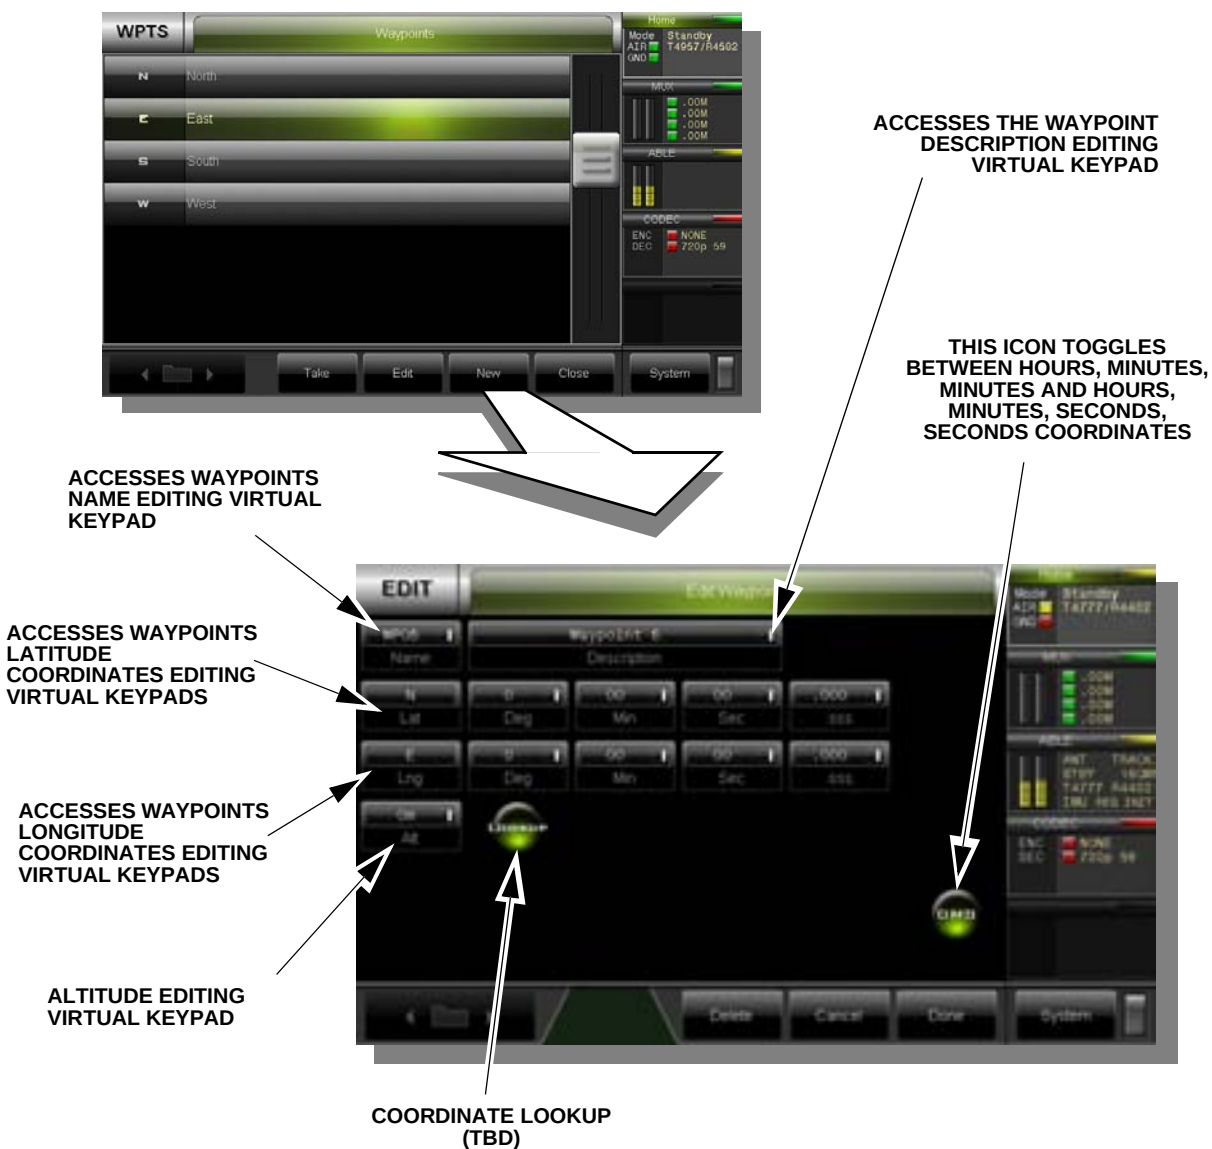

Figure 3–8. Waypoint Editing Page
Refer to Figure 3–9 through Figure 3–12 for information regarding waypoint attribute editing.
- Perform the following steps to create a new, or edit an existing waypoint name (refer to Figure 3–9).